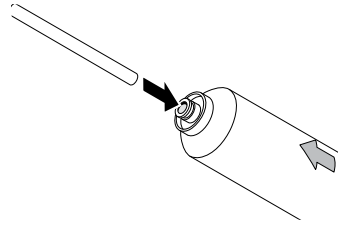

Fig.7 Filter connection
- ③ Push fit one of the tubes into the water filter (Fig.7).